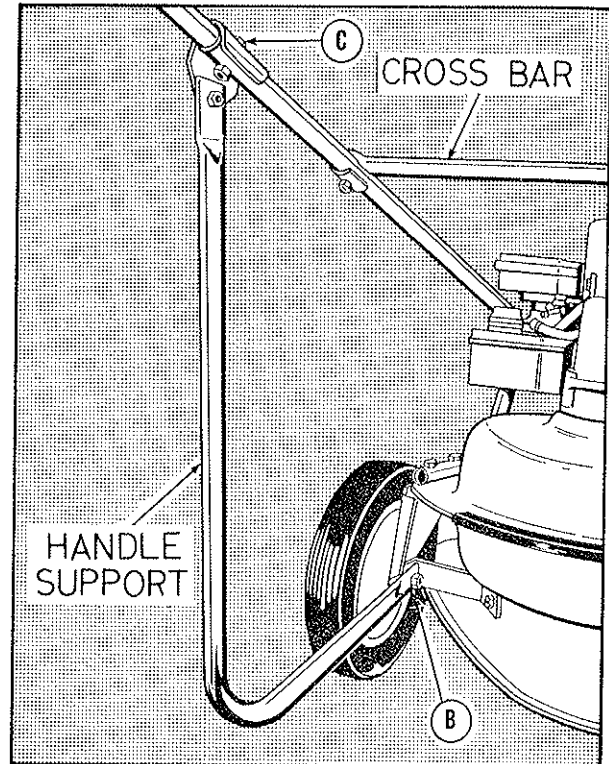

Fig. 2
3. Remove nut on end of each axle at point "B," Fig 2. Swing handle-support forward and position on to axle. Replace nuts.
4. Remove bolts at point "C," Fig. 2. Insert ends of upper handles into lower handles. Replace bolts and nuts.